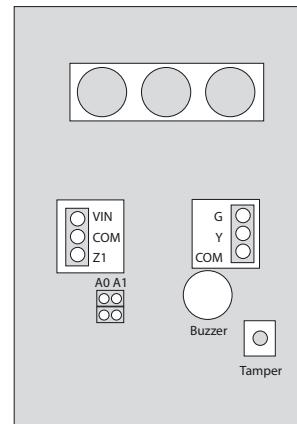

Fig. No. 2
- ATTENTION!** Before fixing the keyboard into the holder please , make sure that the tamper button is properly pressed (see Fig. No. 2).